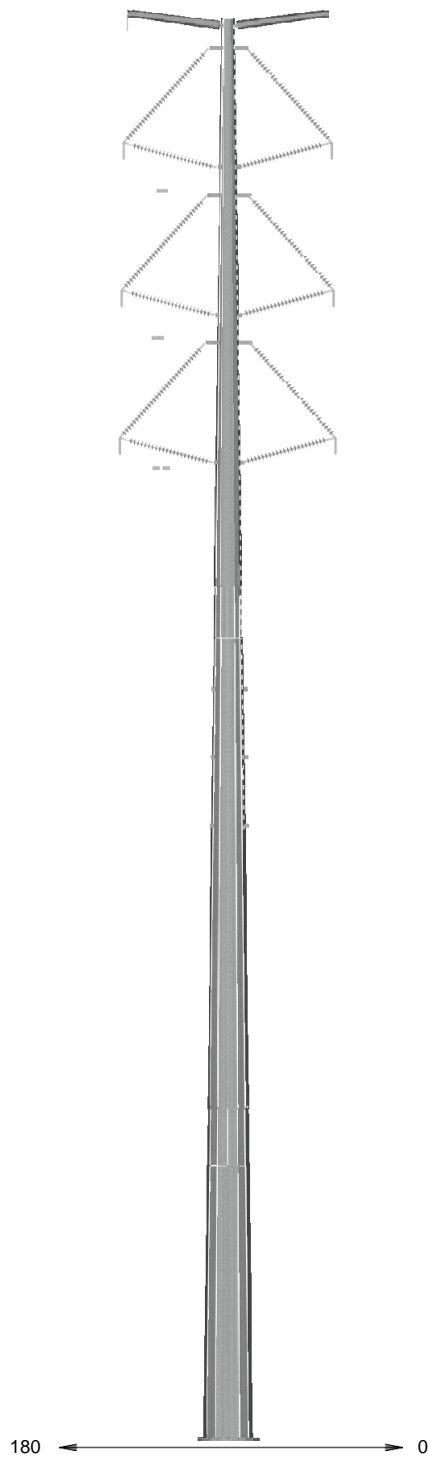

FIGURE G-2
- Figure G-2: Single-Circuit 230 kV Single-Pole, Tangent, Vertical Configuration with Braced Post Insulators